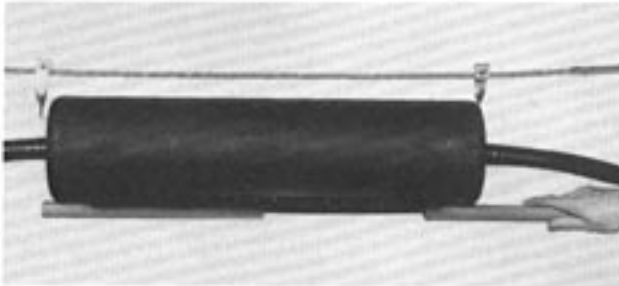

FIGURE 37 - APPLYING CLOSING CLAMPS
11.05 Position the shell over the End Plate assembly so that the flange is in the down position. Then squeeze the flanges together and fully apply the closing clamps (Figure 37).